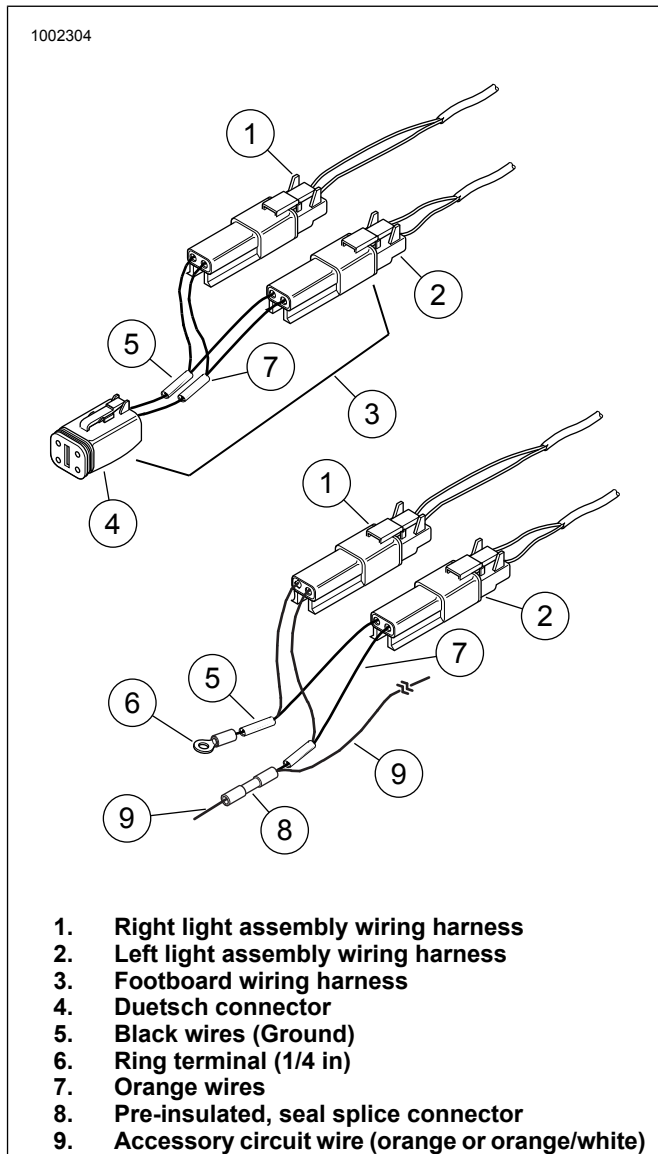
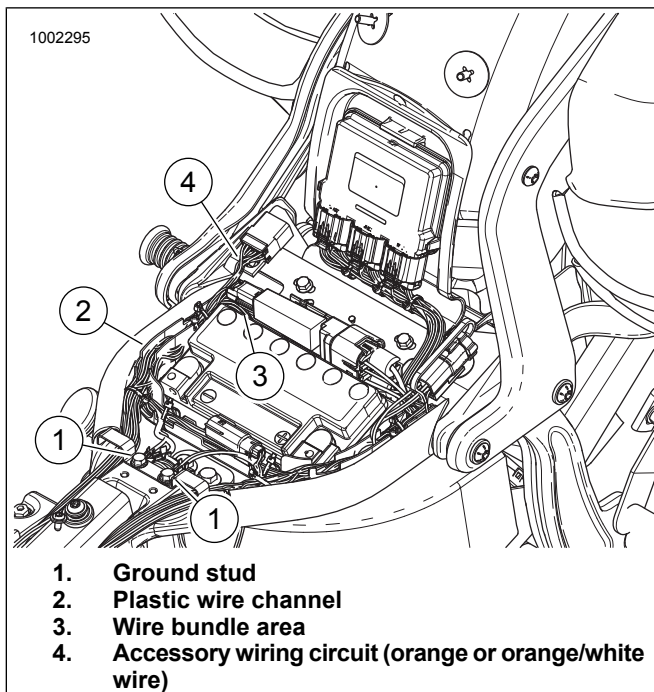

Figure 3. Electrical Connections (All Softail Models)
Figure 4. Electrical Connections Locations
1. See Figure 3. Plug the right (1) and left (2) light assembly wiring harnesses into the footboard wiring harness (3) supplied in the kit.
2. Remove the Duetsch connector (4) according to the instructions in the applicable Service Manual.
3. Cut the existing terminal from the black wire (5), as close to the connector as possible. Strip a 3/8 in. (10 mm) section of insulation from the end of the black wire and install a ring terminal (6) supplied in the kit.
4. See Figure 4. Connect the ring terminal to a ground stud (1) located under the seat.
5. See Figure 3. With the Duetsch connector disassembled, strip insulation from the orange wire (or orange/white) and install a pre-insulated, seal splice connector (8) supplied in the kit.